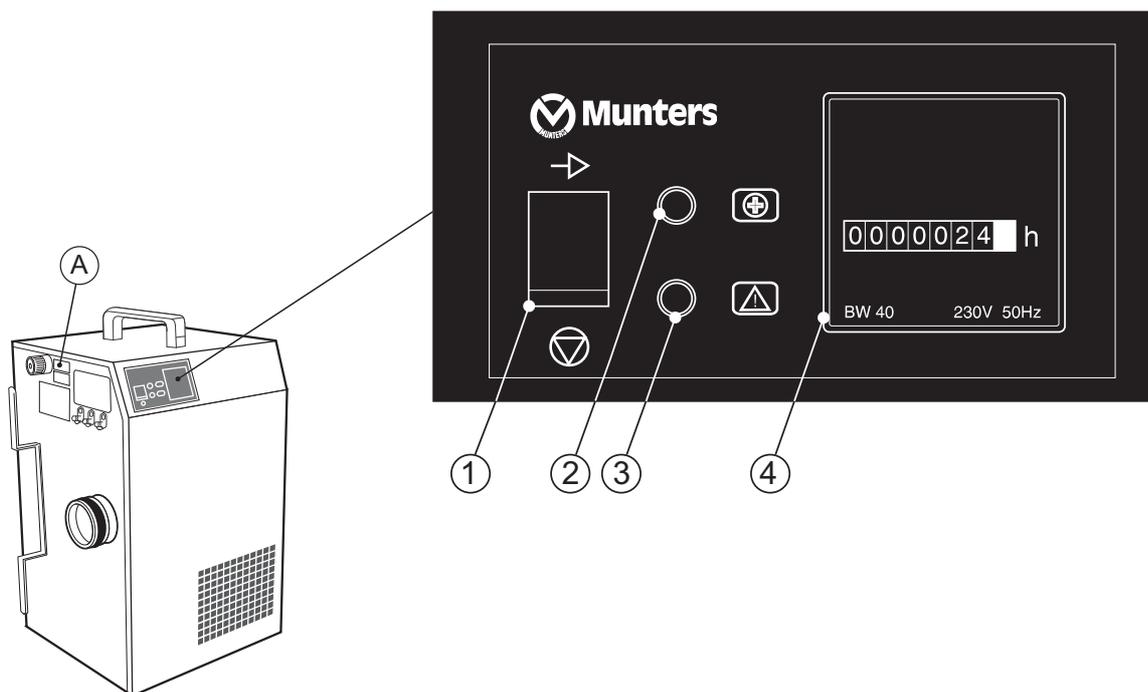

Figure 3.9 Mode switch position and control panel functions.
1. Set the mode switch to the **MAN** position and the mains switch to the position \rightarrow , the dehumidifier will then start (see *Figure 3.9*).